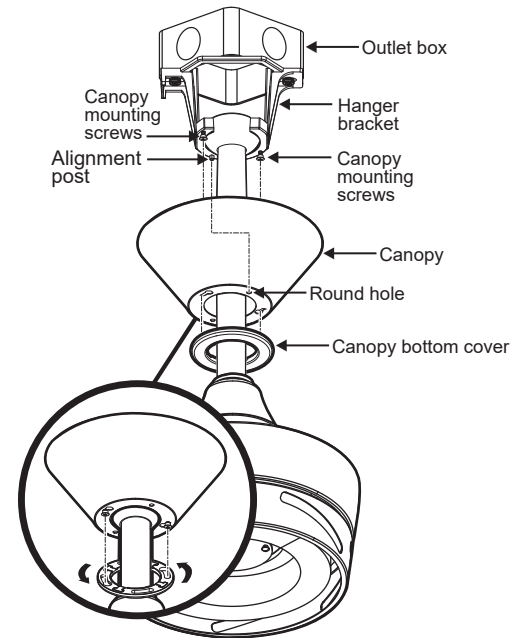

Fig. 13
Step 1. Make sure connections are neatly tucked into the ceiling outlet box. (Fig. 13)